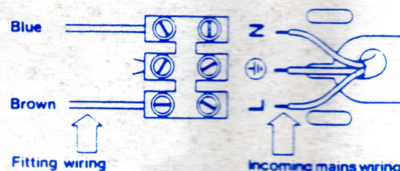

fig. 1
3. Offer the luminaire body to the mounting surface and mark position of the fixing holes. There are several fixing holes available (see fig. 1) and, where possible, the unit should be mounted onto a ceiling joist or other secure fitting. Where plasterboard is encountered, use suitable toggle bolts (not supplied). Drill holes, fit suitable wall plugs (not supplied) and loosely fit two 1.5" no. 8 screws (not supplied).